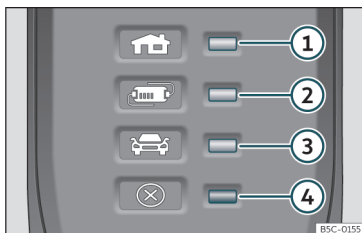

Fig. 197 On the charging cable for power sockets: Indicator lamps on the protection device.
» **Fig. 197:**
The electronic protection device» **Fig. 197** ensures that the charging connector does not receive current until it is plugged in to the vehicle's charging connector.
One or more indicator lamps» **Fig. 197** ①, ② or ③ light up green.
Display» Fig. 197	Meaning
If the red warning light ④ flashes or turns on without one of the indicator lamps »» Fig. 197 ①, ② or ③ also turning on continuously on the status indicator, there is a fault.
Display»» Fig. 197	Meaning